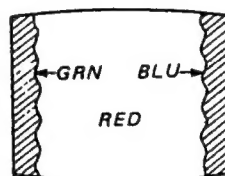

Fig. 3-2.
5. Move the deflection yoke back, and adjust the purity control so that ⓐ is in the center and ⓒ and ⓑ are at the sides, evenly. (Fig. 3-2.)